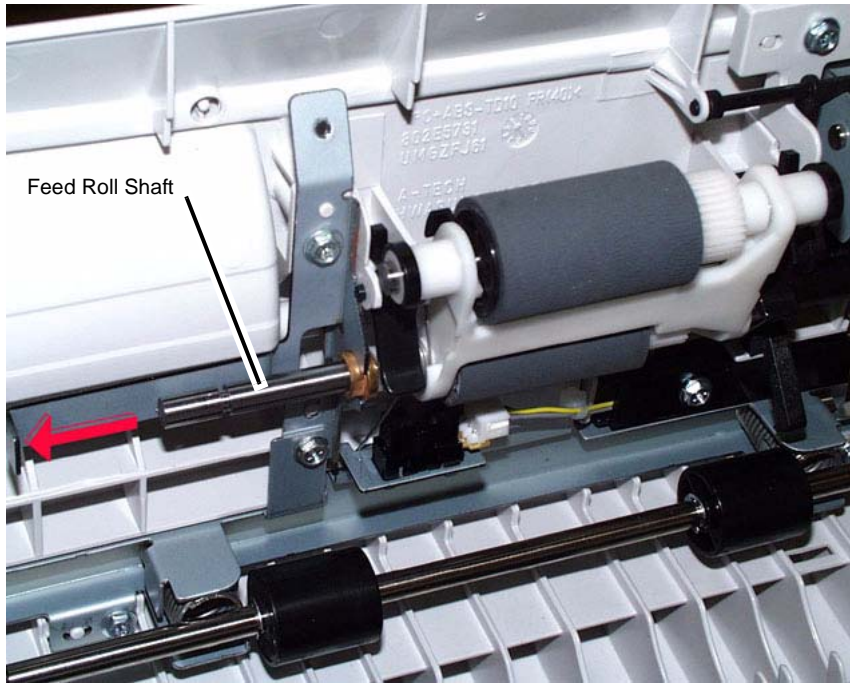

Figure 6 Removing the Feed Roll shaft and the Feed Roll
8. Remove the Feed Roll Shaft and remove the Feed Roll. (Figure 6)